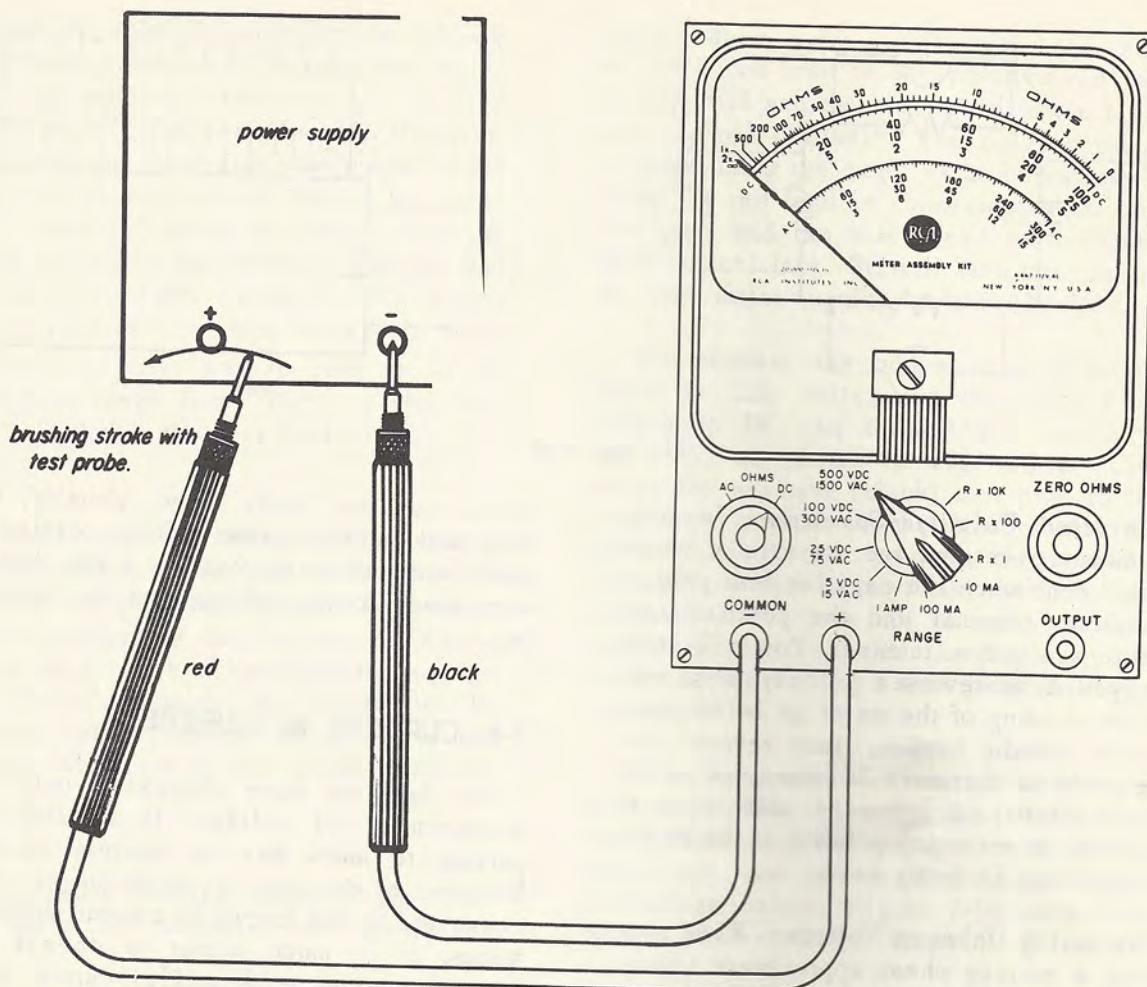

Fig. 7-15
**Measuring Unknown Voltages.** When measuring a voltage whose approximate amount is unknown, *use the highest range first.* Touch one of the test prods to one terminal of the circuit being tested. Watching the meter needle, lightly brush the second terminal of the circuit with the remaining test prod, as shown in Fig. 7-15. Actually, with this brushing stroke you will make a momentary connection and immediately disconnect with the same movement. If the meter needle moves rapidly toward the high end of the scale, it is not safe to measure the voltage with that meter range. If you are using the highest range during this test, then the meter, as it is, cannot be used to read the voltage. If, however, the meter needle starts to move slowly during this brushing contact, it is safe for you to place both test prods firmly on the terminals and read the voltage. If you use the 500-volt range to measure d.c. on your multimeter and the reading falls below 100 volts, move the RANGE switch to the 100-volt range. If the reading falls below 25 volts, use the 25-volt range. If, on the 25-volt range, the reading falls below 5